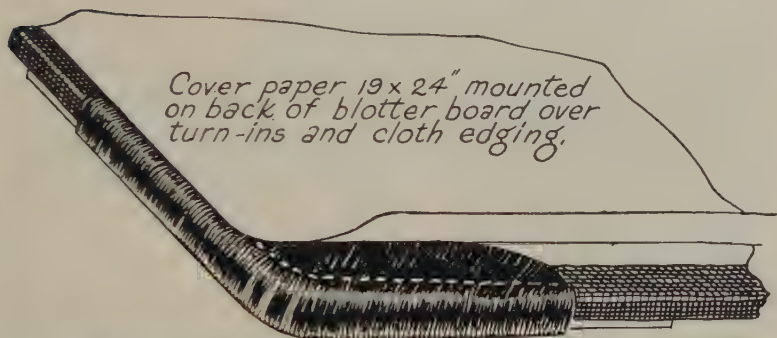

FIG. 130—UNDER SIDE OF BLOTTER BASEBOARD SHOWING METHOD OF AFFIXING LINING PAPER TO BOARD OVER CORNER TURN-INS
6. Using the remaining sheet of cover paper cut this exactly 19" x 24" and mount solidly *with glue* to the uncovered side of the blotter board *over* the leather turn-ins and cloth edging. (Fig. 130.)